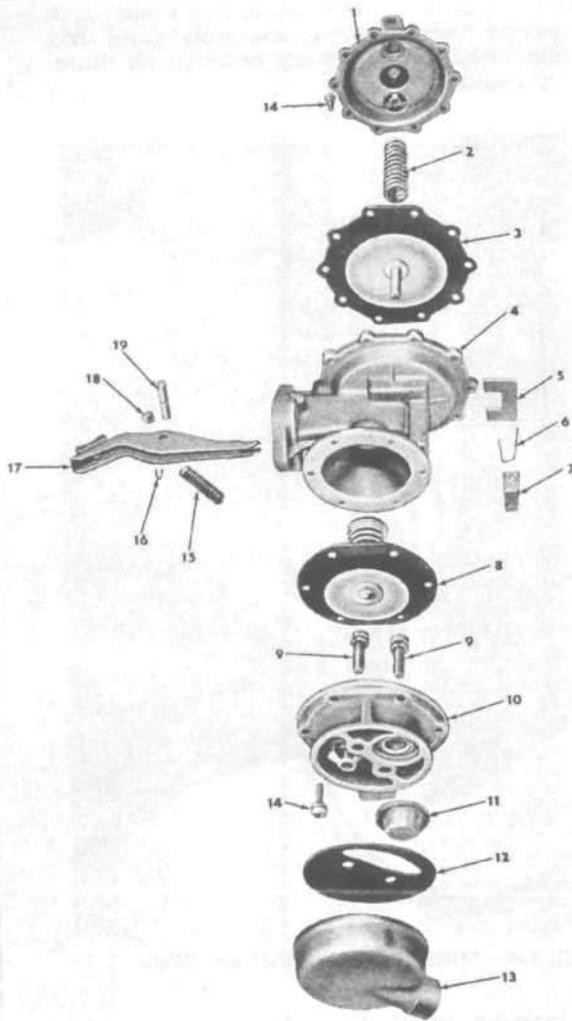

FIG. 140—FUEL AND VACUUM PUMP—
- b. Remove cam lever return spring, Fig. 140, cam lever pin retainer, cam lever pin plug and cam lever pin. The cam lever will now slide freely out of pump body.
The vacuum section of the pump serves as a booster to the intake manifold vacuum to provide uniform windshield wiper operation at all engine speeds and loads. The booster diaphragm shaft is not attached to the cam lever. It is merely pushed up during vacuum pump operation. The vacuum booster may be serviced as a separate unit. See Fig. 140.
- b. Remove the vacuum valve housing cover attaching screws Fig. 140, No. 14, and separate the vacuum valve housing cover No. 1, vacuum diaphragm spring No. 2 and the diaphragm assembly No. 3.